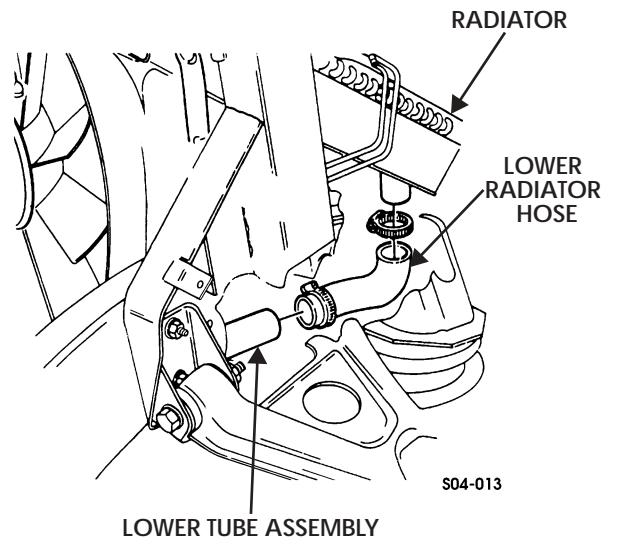

Figure 4-15: Lower Radiator Hose
2. Remove lower radiator hose from radiator and lower tube assembly (Figure 4-15).
1. Install lower radiator hose on lower tube assembly and radiator (Figure 4-15).